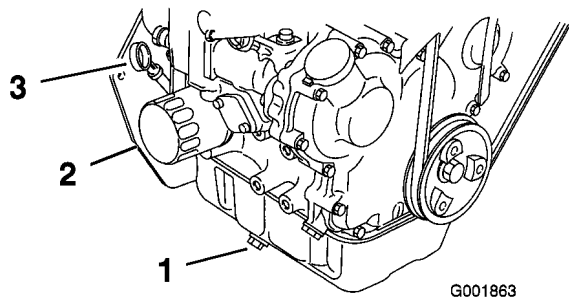

Figure 46
5. Place a pan below the oil drain. Remove the drain plug and let the oil drain completely (Figure 46).